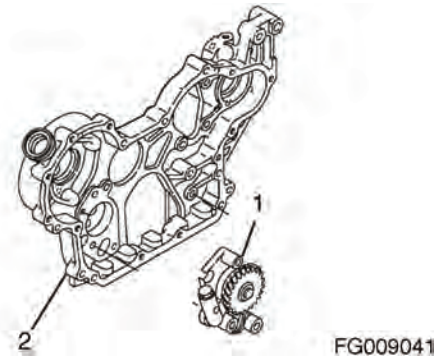

Figure 331
3. Reinstall the oil pump assembly (1, Figure 331) into the gear case housing (2, Figure 331). Tighten the bolts to specified torque.